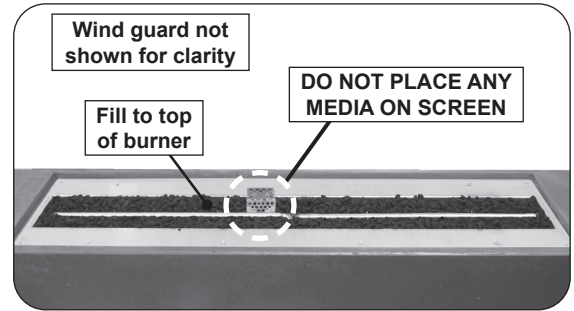
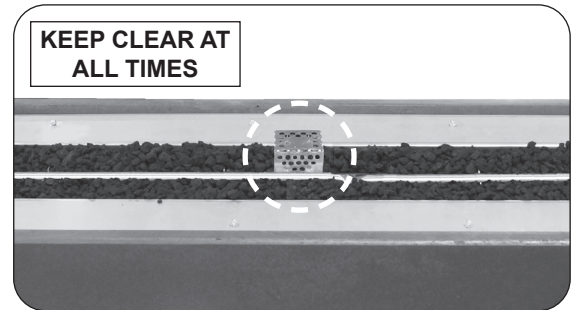

Fig. 31-1 Place lava granules
Fig. 31-2 Screen detail
1. Pour the 10 lb bag of lava granules into the burner area (with the exception of the screen). Spread the granules within the burner area as shown in Fig. 31-1 and Fig. 31-2. **Only fill the granules up to the top of the burner tube.**